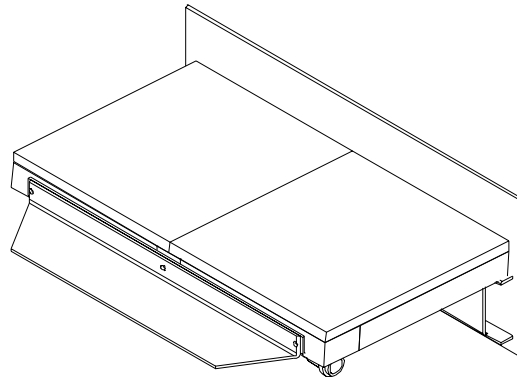

Figure 4.1f
- Unstack the fibre baffle boards by sliding the top board over to one side. Make sure that the baffle is tightly in place by pushing the baffle support to the rear of the stove. Check that baffle boards are located as in fig 4.1f.